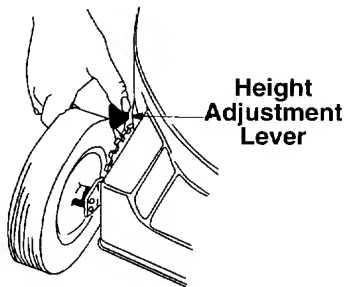

Figure 12
- Simply depress the lever towards wheel and move wheel and lever assembly to desired position. All wheels must be placed in the same relative position. See Figure 12.